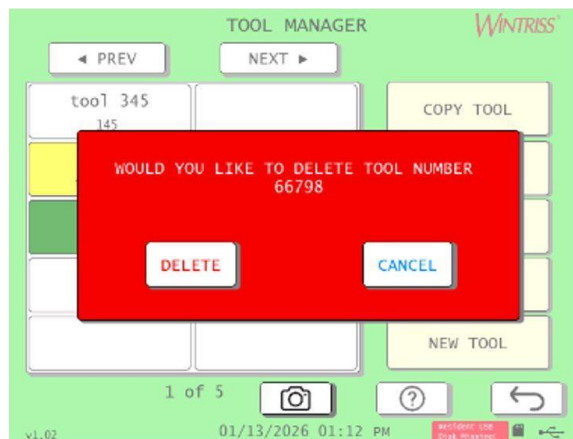

Figure 4-10. Delete Tool Confirmation Message
1. On the Tool Manager screen, press to highlight the tool you want to delete, and press the DELETE TOOL button. The window shown in Figure 4-10 appears, asking you to confirm that you want to delete the tool.